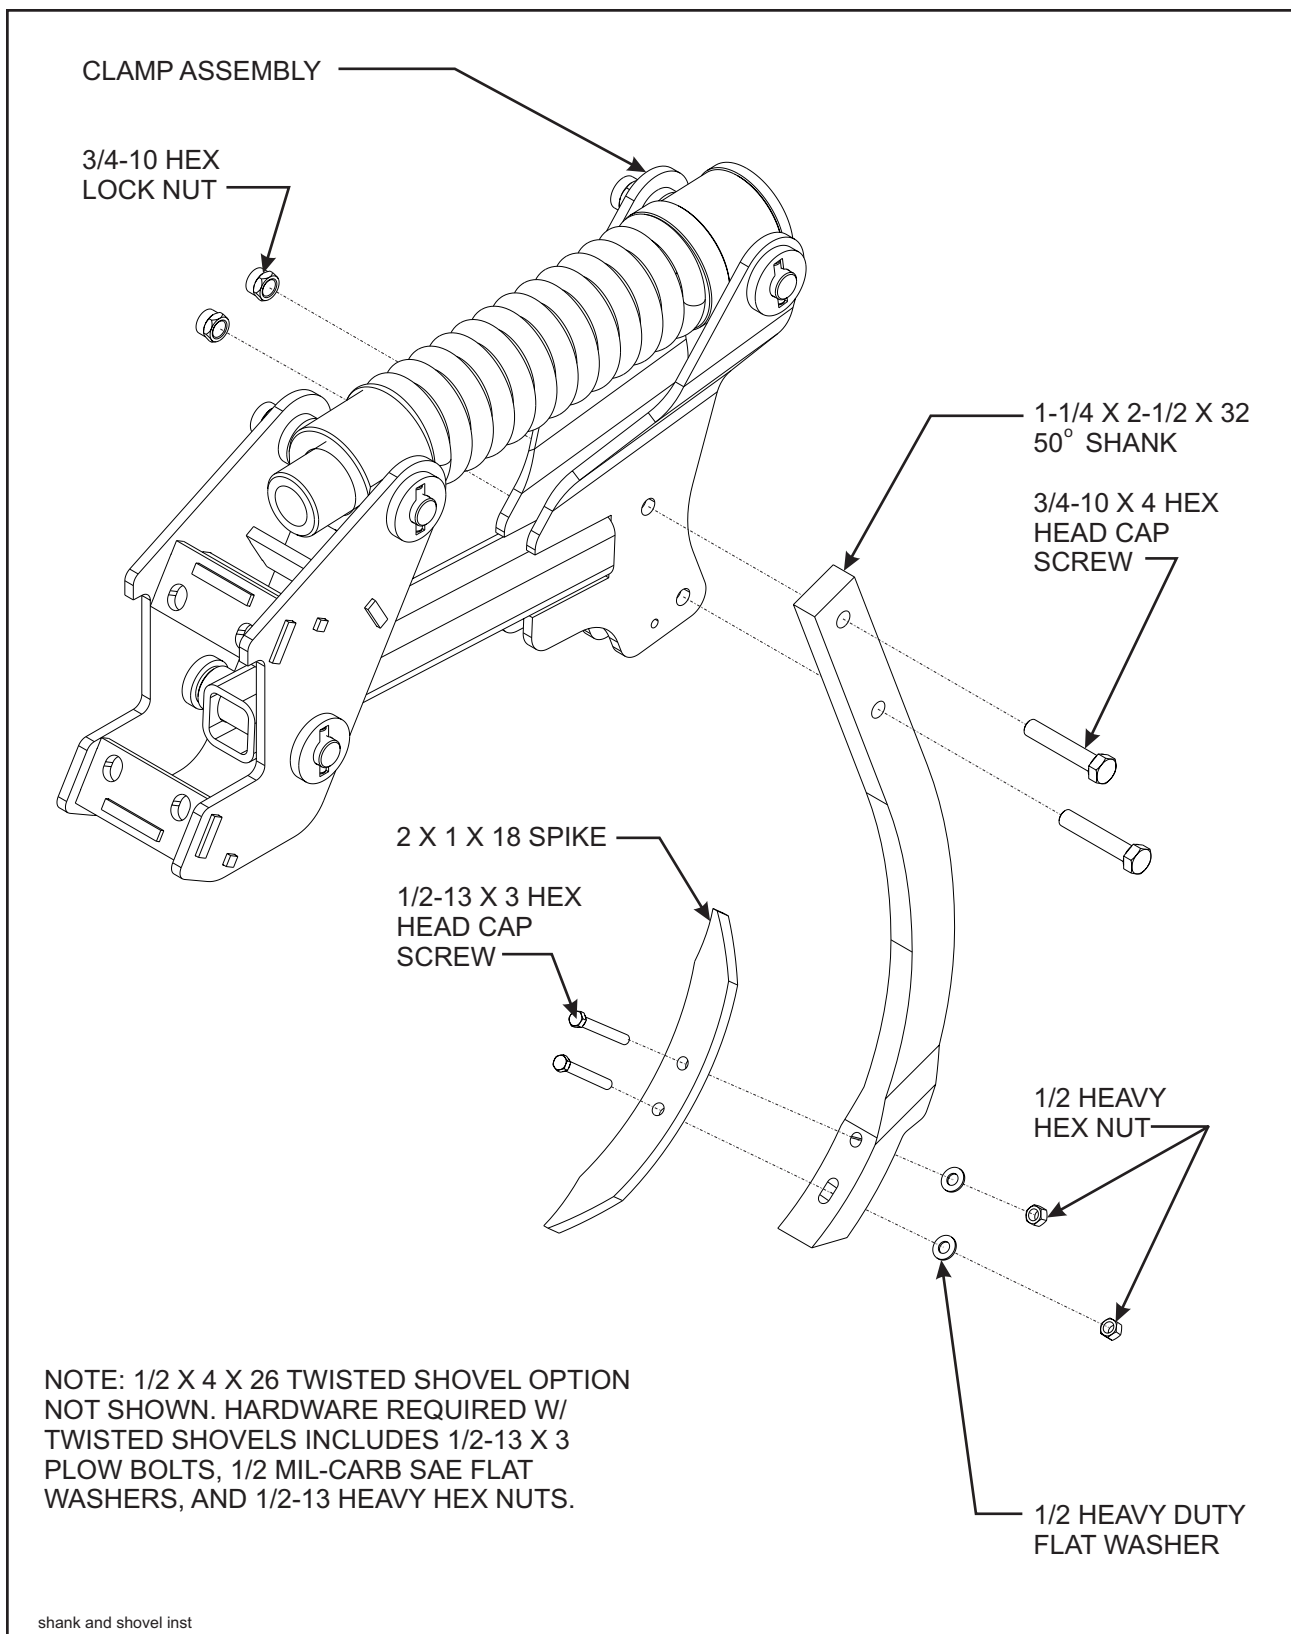

Figure 3-6 Auto Reset Shank and Shovel Installation
- a.** Connect 2 x 1 x 18 spike to each shank using 1/2-13 x 3 hex head cap screws, flat washers, and heavy hex nuts (**See Figure 3-6**).